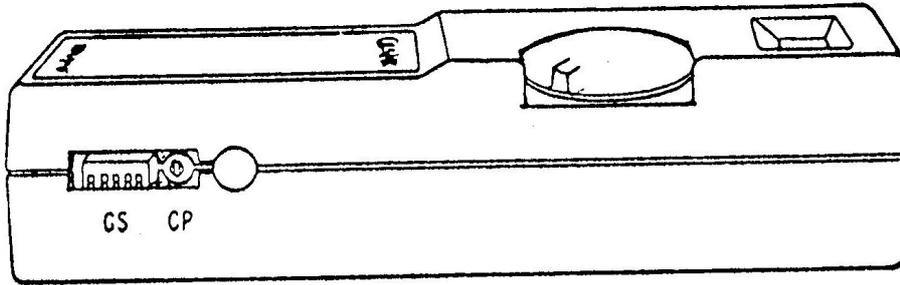

Fig. 7.
- a. Place switch 3 of the calibration switch (CS in Fig. 7) in the up position.